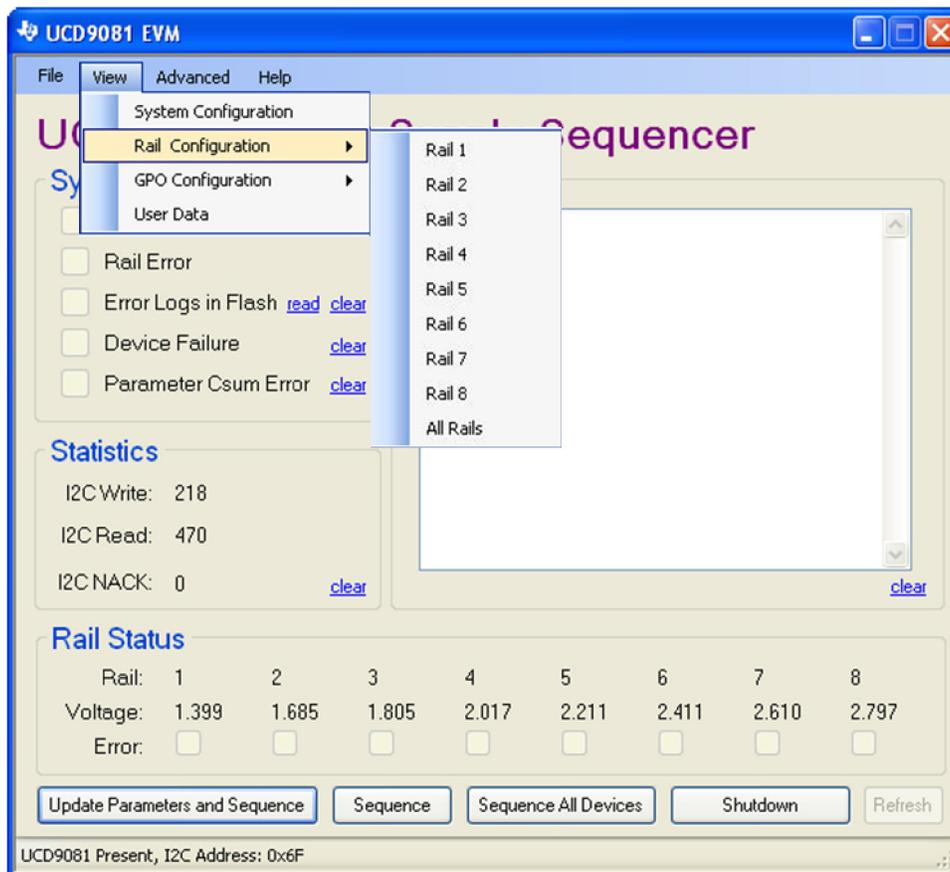
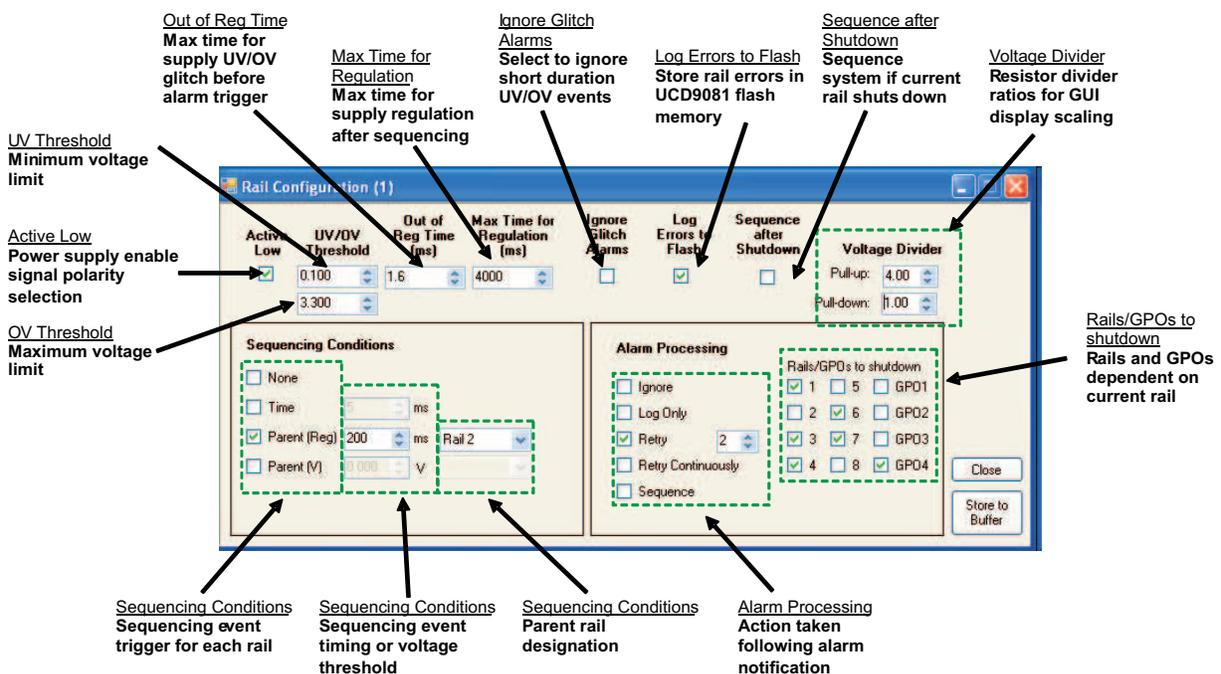

Figure 8. Rail Configuration Drop-Down From View Menu Tab
Figure 9. Rail Configuration Option From View Menu Tab
- **Rail Status** – Shows rail error status and monitored voltage of each rail. The voltage applied to the MONx inputs cannot exceed the ADC reference voltage. However, voltages higher than the reference can be monitored by using resistors to reduce the MONx voltage. Actual external resistor values that are used in the design can be entered in the Rail Configuration window shown in Figure 9. The GUI uses the resistor values to scale the displayed voltages to match the actual rail voltages. The **Pull-up** and **Pull-down** resistor values for a rail must be set to 0.00 if the rail voltage is applied directly to the MONx input.
The Rail Configuration drop-down menu is shown in Figure 8. All Rails simultaneously opens all eight rail configuration windows for comparison setup. A single Rail Configuration window is shown in Figure 9 and includes the following configuration options: